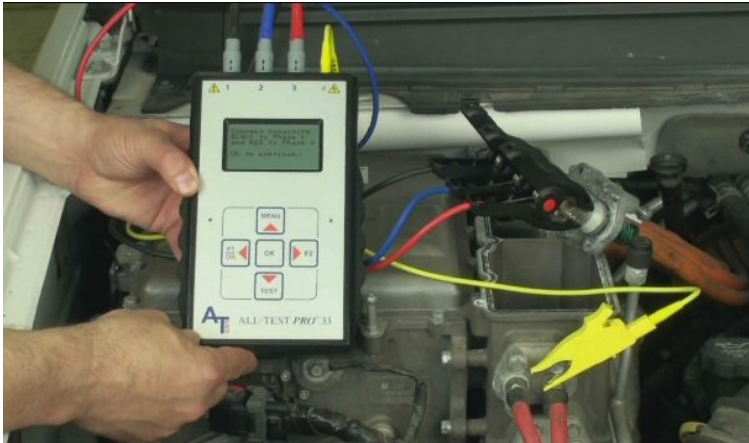

Figure 2. Testing at the vehicle high voltage cables
- If the testing is to be done on the vehicle, it will be necessary to access the transmission 3-Phase electric machine connections at the power inverter (Figure 2).